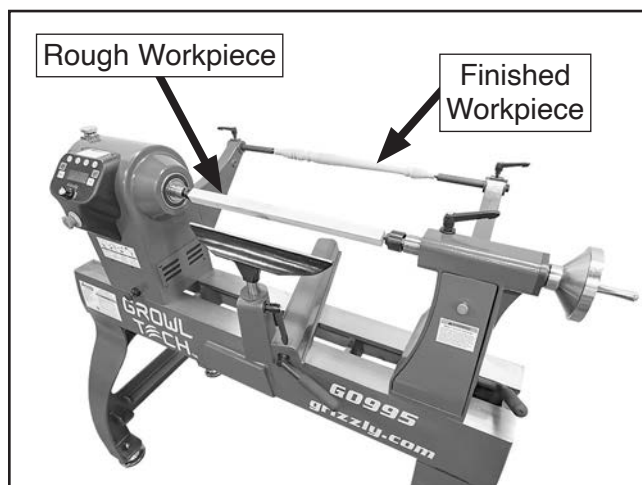

Figure 82. Workpieces properly aligned.
11. Adjust workpieces as needed until profiles are aligned as desired (see **Figure 82**).